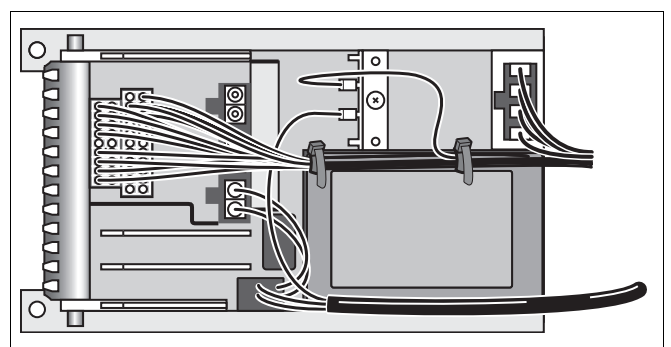

Fig. 50 Backside of the UBA
- Carefully turn the UBA around with the backside facing up (fig. 50).